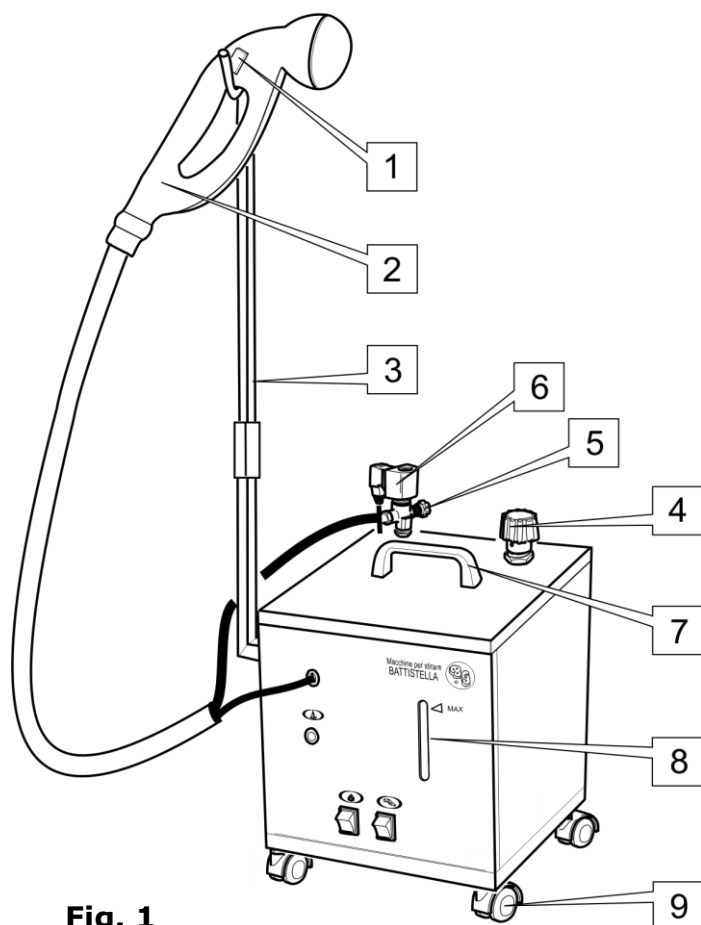
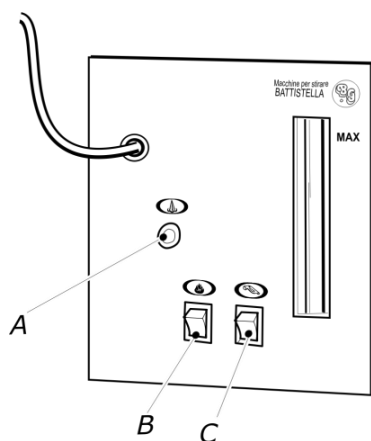
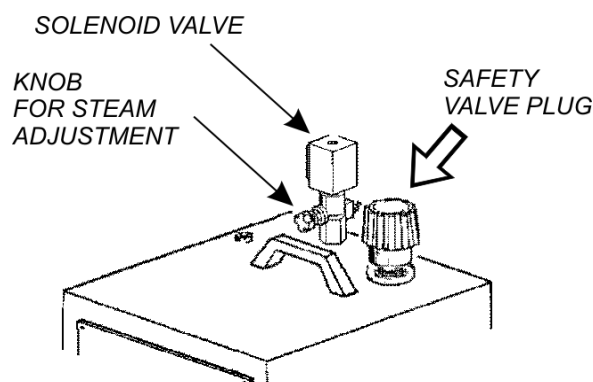
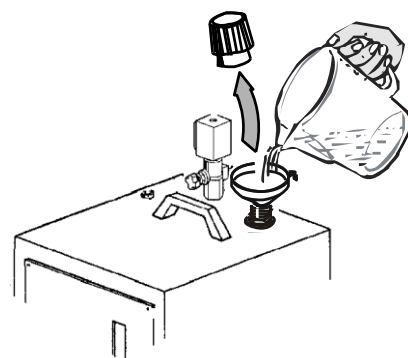

Fig. 1
Fig. 2
Fig. 3
Fig. 4
2. Remove ATENA from the box insert the brush-holder in the proper support (fig. 1), tightening also the screws.
1. Unscrew the safety valve plug of ATENA (fig. 1) and fill the boiler with water to the desired level, paying attention not to exceed the MAX level marked on the level glass (fig. 1). Take the plug by the plastic part and screw it again: do not tighten too much or its gasket might get spoilt (see section 7).
3. Switch on the boiler (fig. 2 B). After 5 minutes switch on the steam brush (fig. 2 C).
4. Wait for the boiler lamp to switch off (fig. 2 A). Seize the steam brush and press the micro-switch 2 or 3 times, so that steam comes out. It is important to make sure it is a saturated steam (by pressing the button with the brush pointed towards the floor). This avoids water droplets which could wet the fabric. It is possible to adjust steam flux by turning the adjustment knob placed on the solenoid valve (fig. 3). During ironing operation, the boiler lamp switches on and off signalling that the machine is working properly (fig. 2 A).
9. **Never replace the safety valve plug (fig. 3) with other types of plug. N.B. the safety valve plug is set at 4,5 bar and it has the function of a safety valve.**
Disconnect the machine plug, rotate the safety valve plug 360° (fig. 3) and wait for steam to go out completely. Unscrew the valve plug with care and wait 5/10 minutes.
Fill the boiler with water (fig. 4), paying attention not to exceed MAX level (section 4 – point 1). The use of a funnel is suggested. Screw the valve plug again (fig. 1), connect the plug and wait for the boiler lamp to switch off (fig. 2 A). Now the brush is ready to iron again.
Unscrew the safety valve plug (fig. 3) and tilt ATENA towards right so that water and impurities flow out.
3. steam tube and brush cable once they seem damaged (fig. 1);
4. the safety valve plug every 2500 hrs. of ironing or maximum every 3 years (fig. 3).